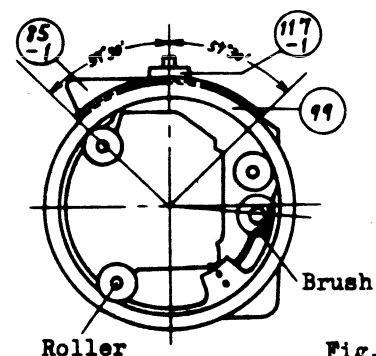

Fig. 13
- 5-2. *The gearing position of the above mentioned F-idle gear is adjusted so that it comes to the center of the gear part of brush gear (#99) as shown in Fig. 13. (Refer to Fig. 2a and Fig. 5a)